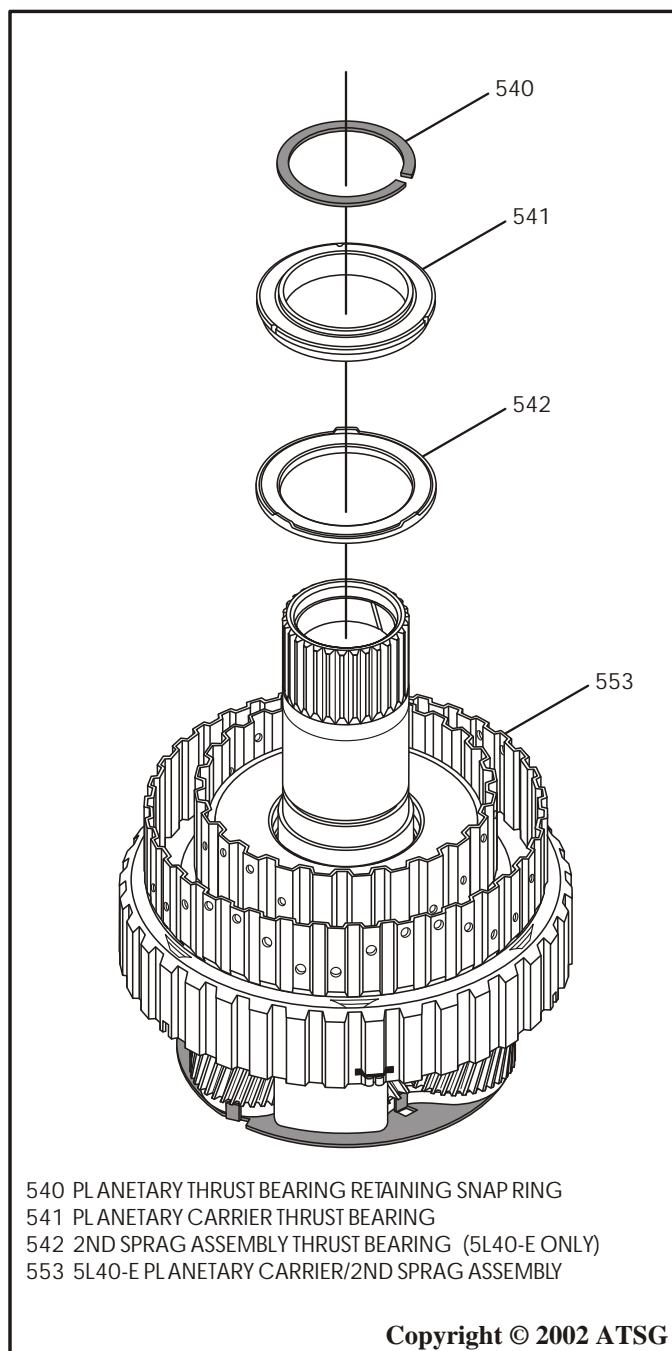

Figure 156
8. Install thrust bearing (542) on top of 2nd sprag assembly, as shown in Figure 156.
9. Install thrust bearing (541) on top of thrust bearing 542, as shown in Figure 156
11. Install the retaining snap ring, as shown in Figure 156, and ensure that it is fully seated.